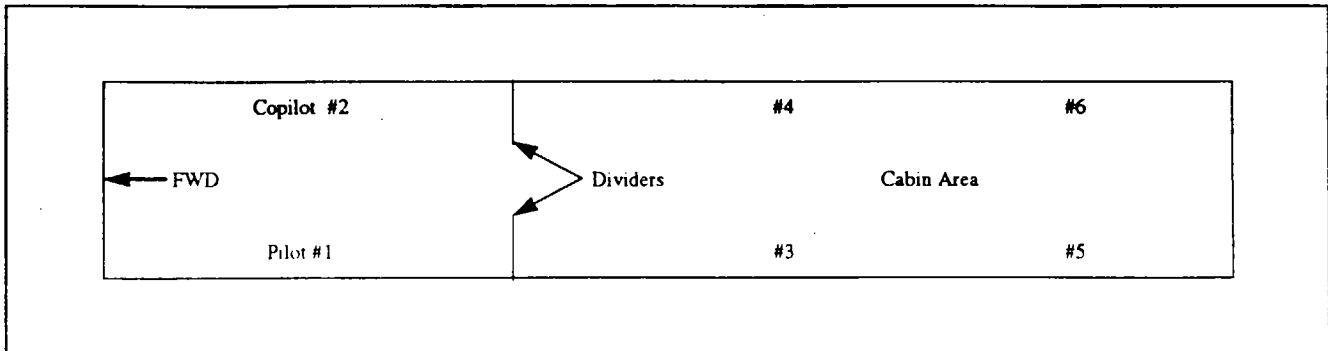

Figure 14-43 . Air Conditioning Outlets
OUTLET NO. (Refer to fig. 14-43.)	FEET PER (MIN.)
a. The air flows at the individual outlets should fall at or above the velocities shown in Table XIV-XIV. For purposes of identification, the outlets are numbered left to right, forward to aft, starting with the pilots outlet (No. 1) as shown in Figure 14-43.
14-135. DESCRIPTION OF SYNCHROPHASER SYSTEM. (Refer to Figure 14-43.)